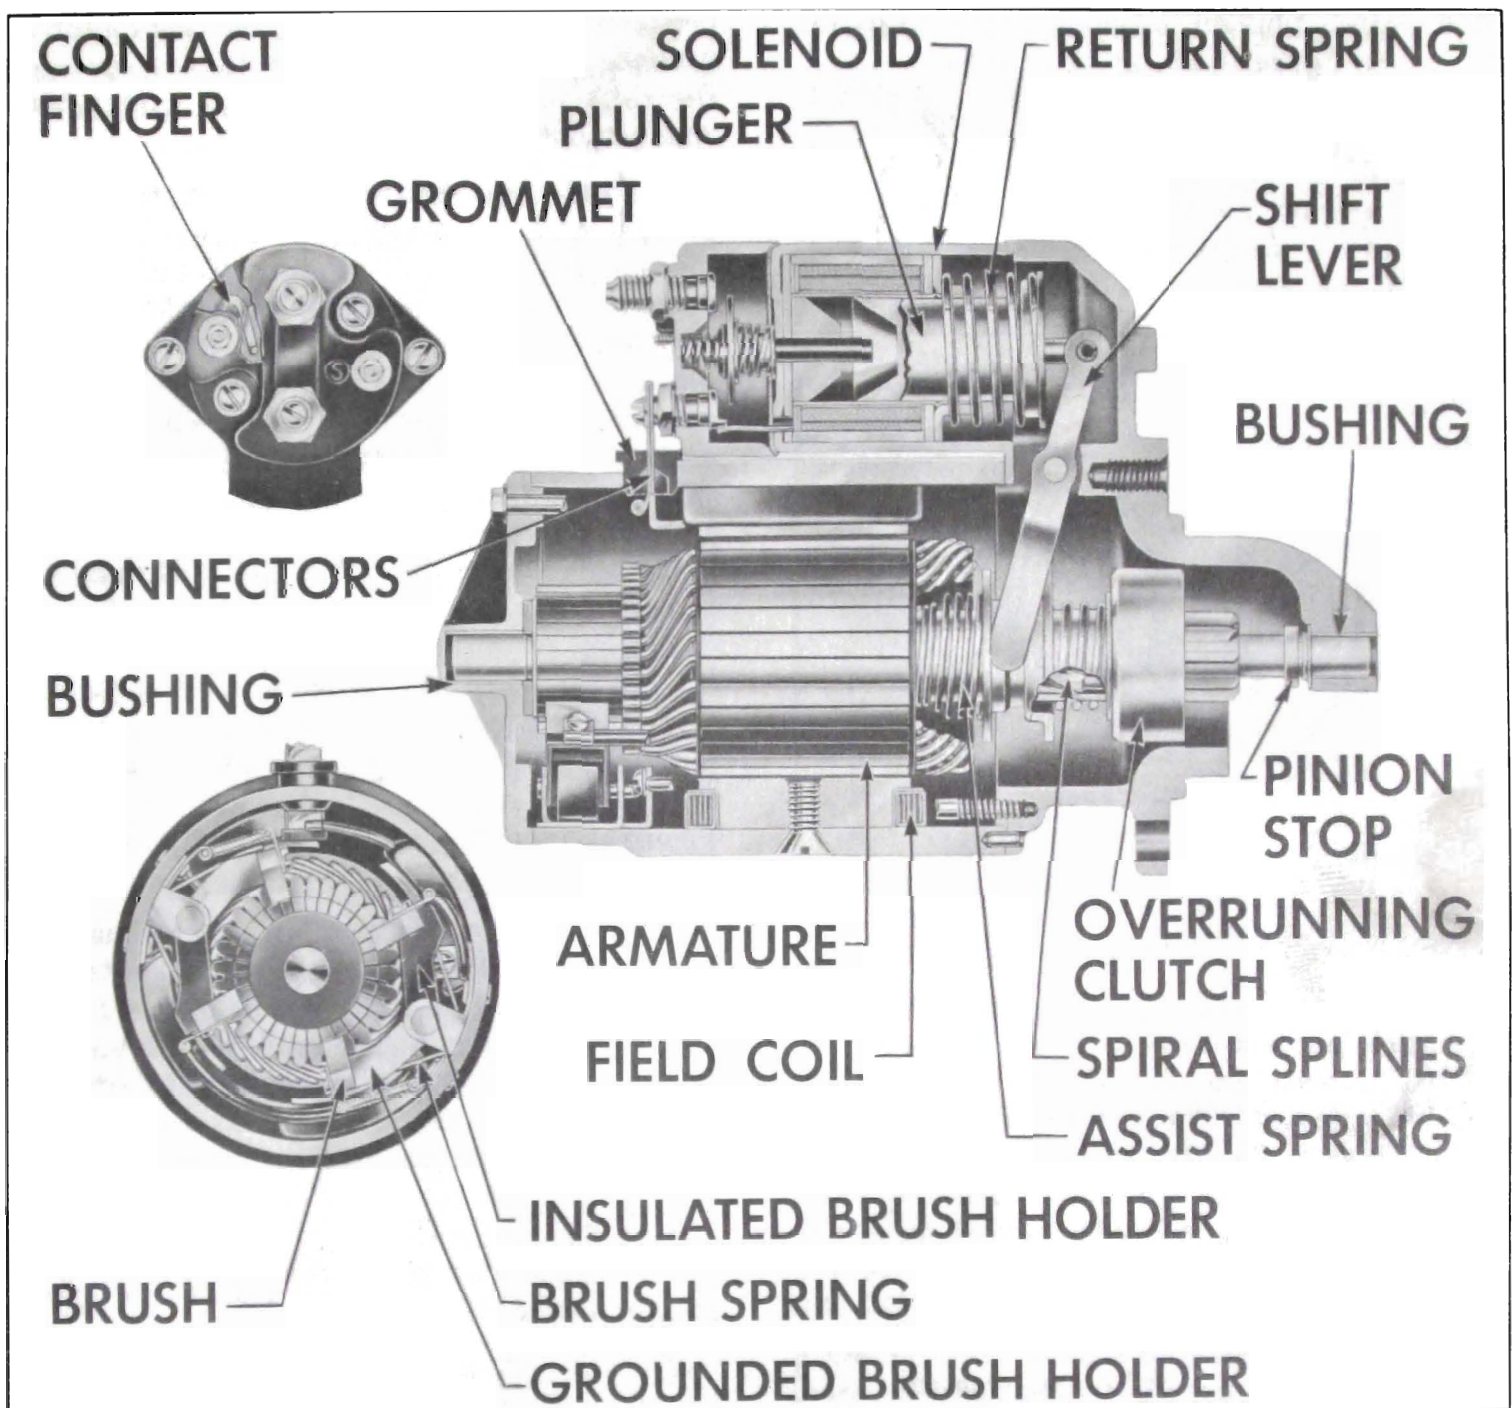

Figure 10-26—Cranking Motor—Sectional View (364 Cu. In. Engine)
The cranking motor assembly consists of a motor, drive assembly, shift lever, and solenoid switch. See figure 10-26. It is mounted on the flywheel upper housing on the left side of engine.
noid switch plunger by a link and adjusting screw. See figure 10-26.
The solenoid section of the switch has a plunger and two windings, the "pull-in" winding and the "hold-in" winding. Together, they provide sufficient magnetic attraction to pull the solenoid plunger into the solenoid. The plunger actuates the shift lever and drive assembly and it also closes the solenoid switch contacts by pressing against a push rod upon which a contact disk is mounted between two coil springs. One spring serves as a cushion to insure firm contact of the disk with two stationary contacts. The other spring pushes the disk away from the stationary contacts to break the circuit when the solenoid is demagnetized after the engine starts. One stationary contact is connected to the battery positive cable and the other is connected to the motor windings through a connector or bus bar. See figure 10-26.
2. Connect a 12-volt battery, a variable resistance, and an ammeter of 100 amperes capacity in series with solenoid "S" terminal. See figure 10-26 for location of "S" terminal. Connect a heavy jumper wire from solenoid base to ground post of battery.
When it is necessary to disassemble cranking motor for any reason, make a complete clean-up and inspection to make sure all parts are in satisfactory condition. See figure 10-26 for identification of parts.